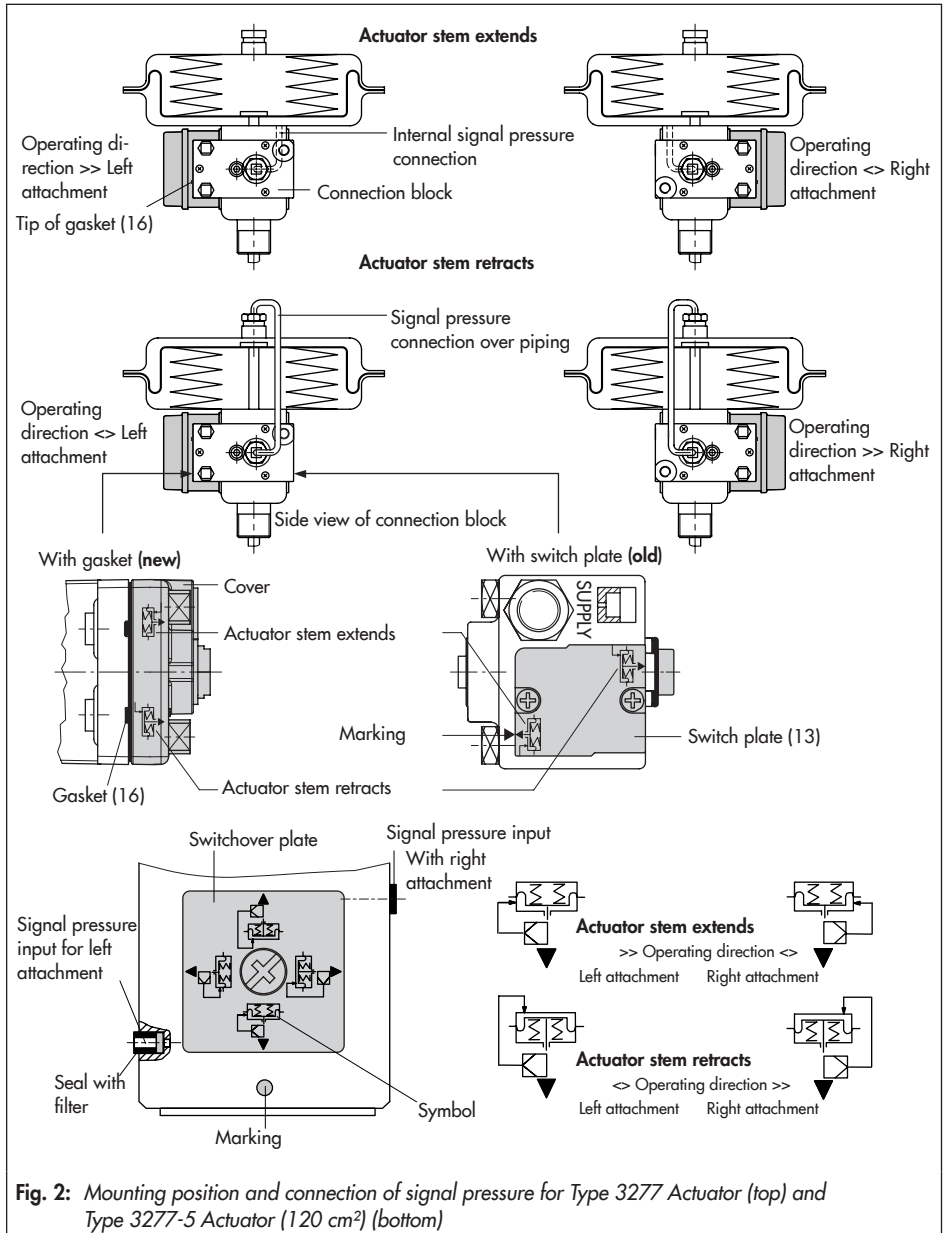
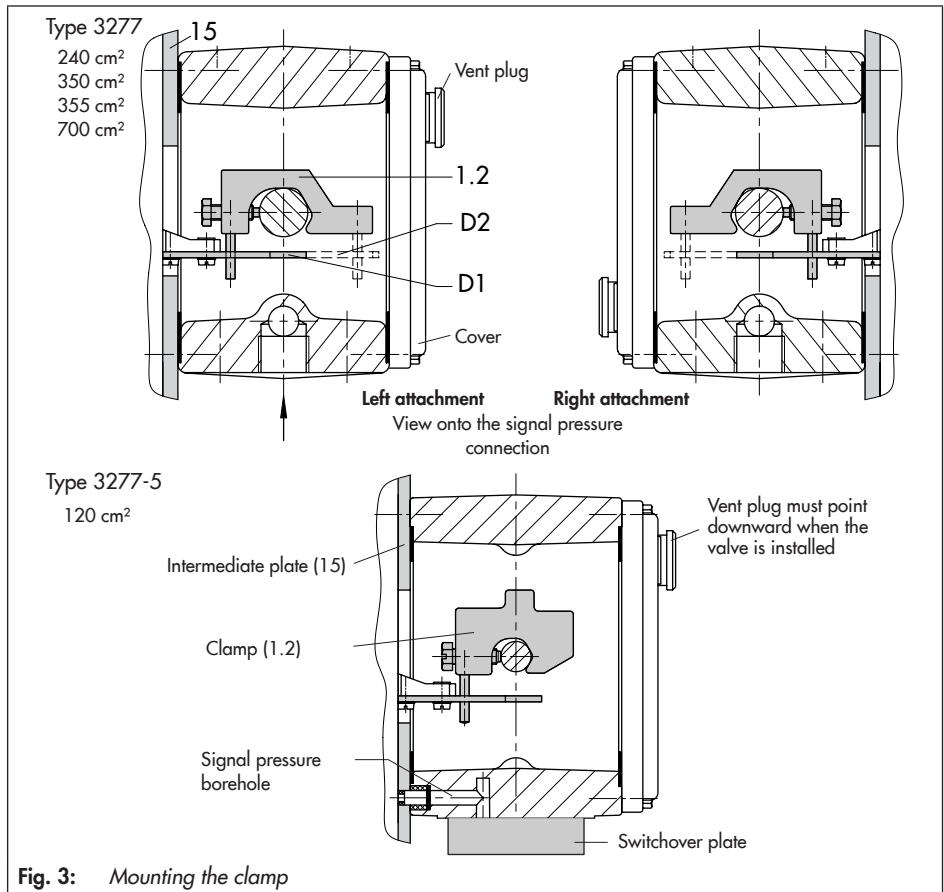

Fig. 2: Mounting position and connection of signal pressure for Type 3277 Actuator (top) and Type 3277-5 Actuator (120 cm²) (bottom)
Fig. 3: Mounting the clamp
The operating direction of the positioner also determines its mounting position on the actuator as illustrated in Fig. 2, Fig. 3 and Fig. 5.
The signal pressure is transmitted to the diaphragm chamber over the switchover plate (Fig. 2 and Fig. 3, bottom).
7. Make sure that the tip of the gasket (16) projecting from the side of the connection block (Fig. 2, middle) is positioned to match the actuator symbol for the actuator's fail-safe action "actuator stem extends" or "actuator stem retracts". If this is not the case, unscrew the three fastening screws and lift off the cover. Turn the gasket (16) by 180° and re-insert it.